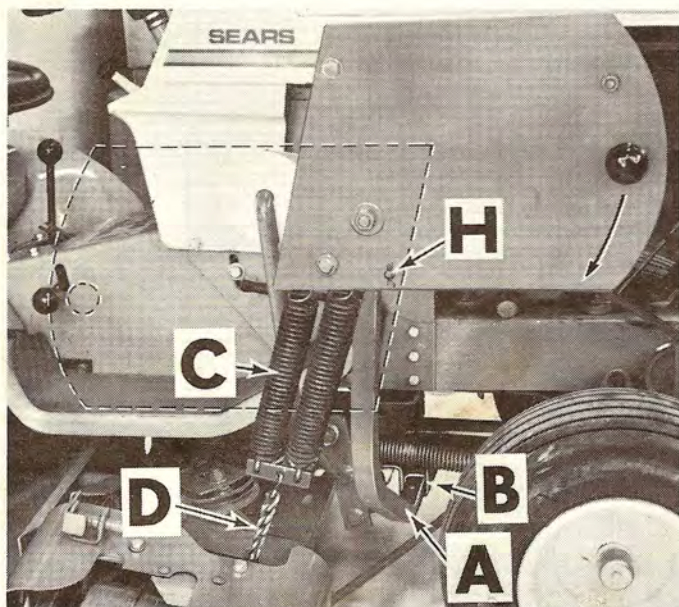

Fig. 12
Insert end of carrier arm (A) into square pocket at (B). Remove safety clevis pin (H) and rotate carrier arm shield to position shown in Figure 12. Connect "S" hook of spring assembly (C) to fourth or fifth link in chain (D).